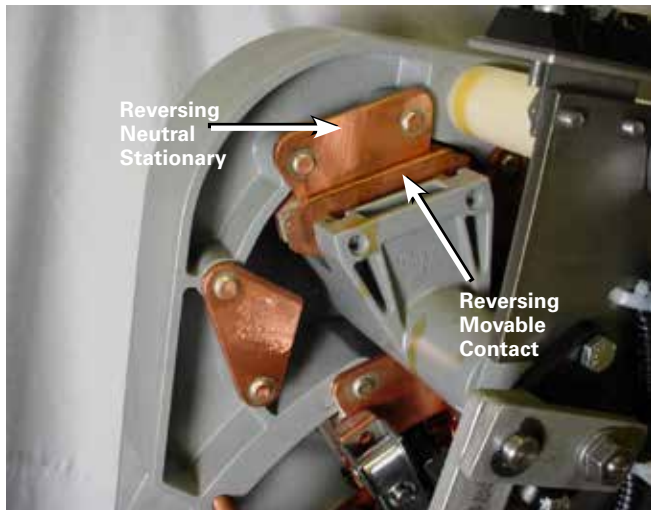

Figure 126. Neutral position for reversing movable.
- B. The reversing movable contact is located on the reversing neutral stationary contact. See Figure 126.